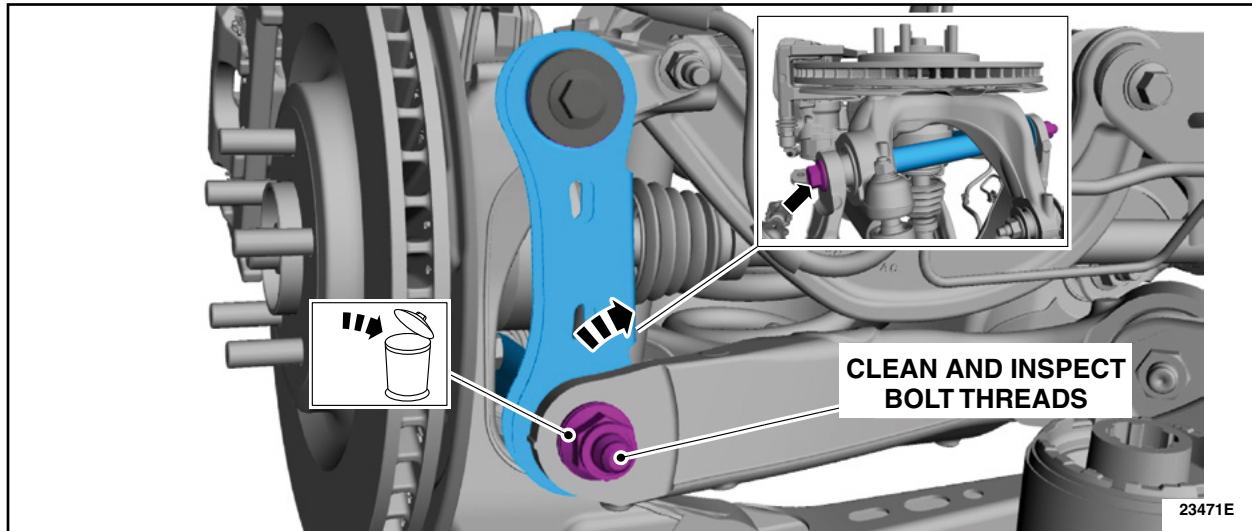

FIGURE 7
11. Remove and discard the LH rear lower arm vertical link lower nut. Then, remove, clean and inspect the LH rear lower arm vertical link lower bolt threads. If the threads are not damaged, apply LOCTITE® 263™, or equivalent (Obtain locally), and reuse the bolt and order a *new* nut. If the threads are damaged order a *new* nut and bolt. See Figure 7.